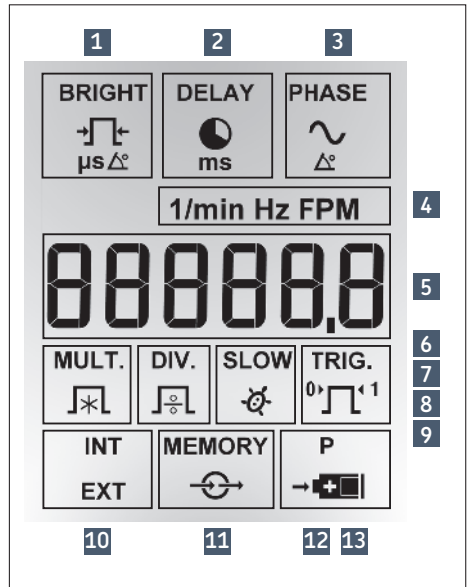

Fig.2 – Display
- 6.2.2 Standard mode (→ fig. 2)10
- 6.2.3 Pro mode (→ fig. 2)13